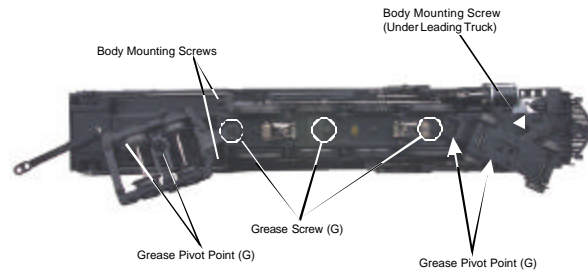
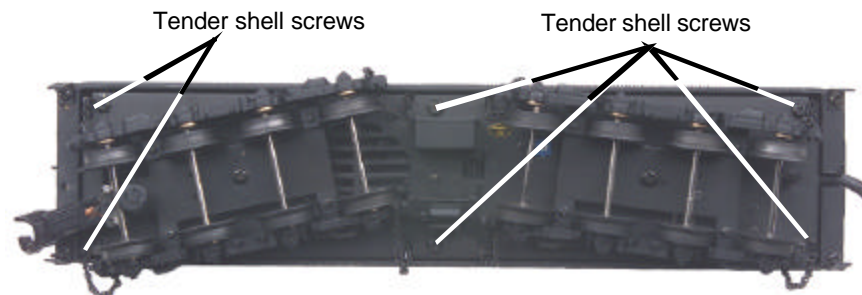
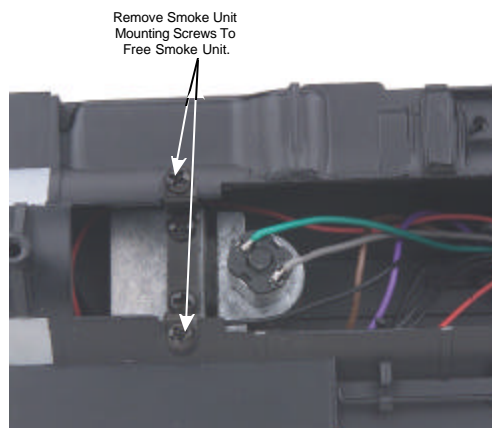

Figure 6: Removing The Body
*Figure 7: Headlight Wire Harness*
Figure 12
2. Remove the boiler by removing the body mounting screws shown in Fig. 6
3. Remove the Phillips screw (marked “GREASE”) located at each set of wheels (Fig. 6) and the gearbox cover screws (Fig. 7).
You should also grease the leading and trailing locomotive truck tongues to enhance their ability to slide on the chassis. Follow the grease points shown on Fig. 6.
1. To replace the headlight in this model you will need to follow the disassembly instructions for smoke unit maintenance in figure 15 on pg. 19. Once the smoke unit is removed you can access the wires for the headlight (see figure 7).
(by removing the body mounting screws shown in Fig. 6 on pg. 13). Next, remove the smoke unit by unscrewing it from the bottom of the boiler as seen in Figure 12.